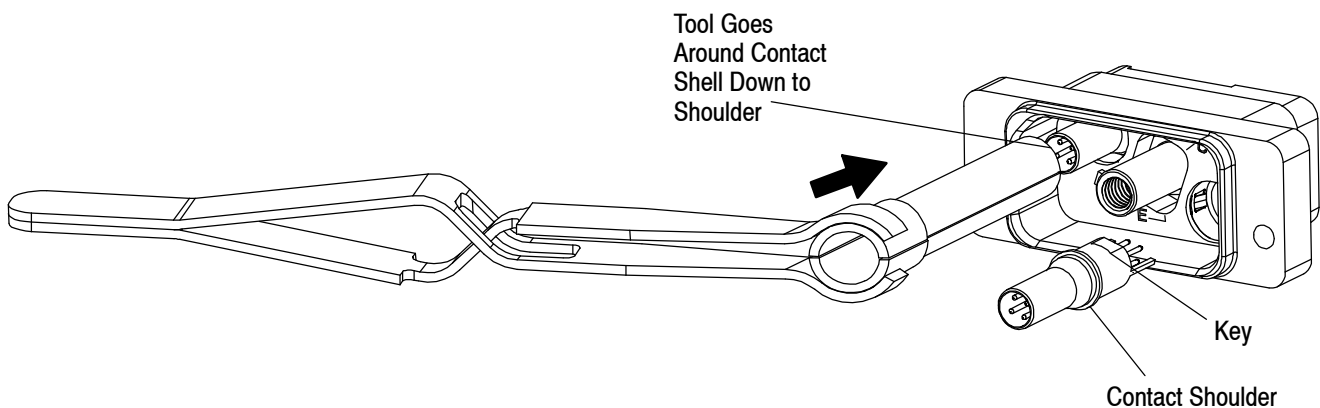

Figure 15
The pc board Quadrax Pin Contacts are keyed to line-up with the keys in the connector shells. Visually line up the keys and insert the contact from the front of the connector shell until the contact bottoms behind the retention clip. Refer to Figure 15.
1. Use recommended Extraction Tool 1738894-1 for removal of the contacts from the connector shell. Note that the contacts must be de-soldered from the pc board prior to removing them from the shell. See Figure 15.